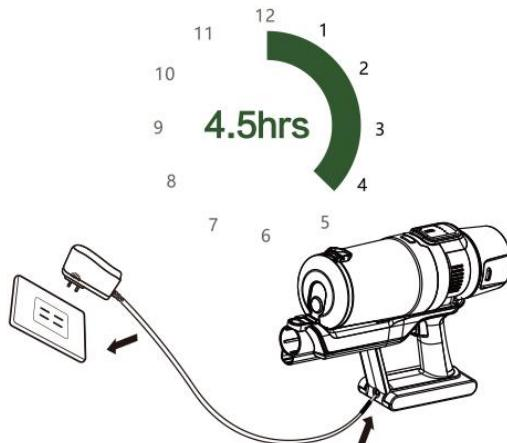

Fig. 3
3. The connector of the charging adapter is integrated in the charging seat. To use the adapter separately, use a screwdriver to remove the screw and open the cover, then remove the connector from the charging seat. (Fig. 3)